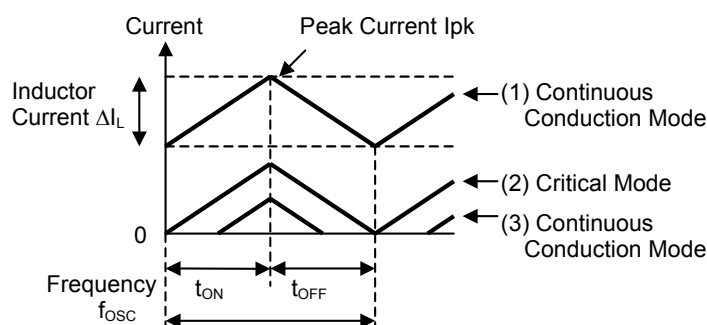

Fig. 4. Inductor Current State Transition
Ideally, the value of  $L$  is set so that inductance current is in continuous conduction mode. However, as the load current decreases, the current waveform changes from (1) CCM: Continuous Conduction Mode  $\rightarrow$  (2) Critical Mode  $\rightarrow$  (3) DCM: Discontinuous Conduction Mode (Fig. 4.).